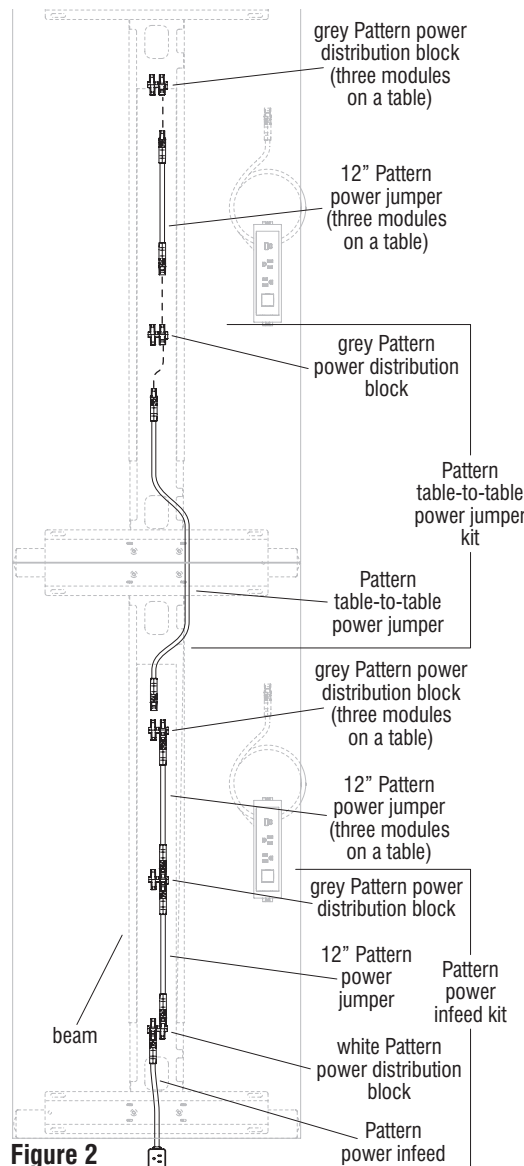

Figure 2
1. Take a Pattern table-to-table power jumper in hand and plug the jumper's male connector end into a grey Pattern power distribution block as shown in Detail B on page 23 and Figure 2 this page. Orient the table-to-table power jumper's female connector end out of the side cutout on the beam and toward the previous table's side cutout on the beam, in the direction of the table with the Pattern table-to-table power jumper kit (Figure 2 & page 23, Detail B).
2. Step 1 above assembles the Pattern table-to-table power jumper kit (Figure 2). If the table being assembled will have three power modules, an additional 12" power jumper and grey power distribution block must be added after the Pattern table-to-table kit (Figure 2 & page 23, Detail B).
4. If the Pattern power infeed is located in-between two tables, connect the closest Pattern table-to-table power jumper, not connected to the run of tables, to the open available socket on the white Pattern power distribution block (Figure 2 & page 23, Detail A).